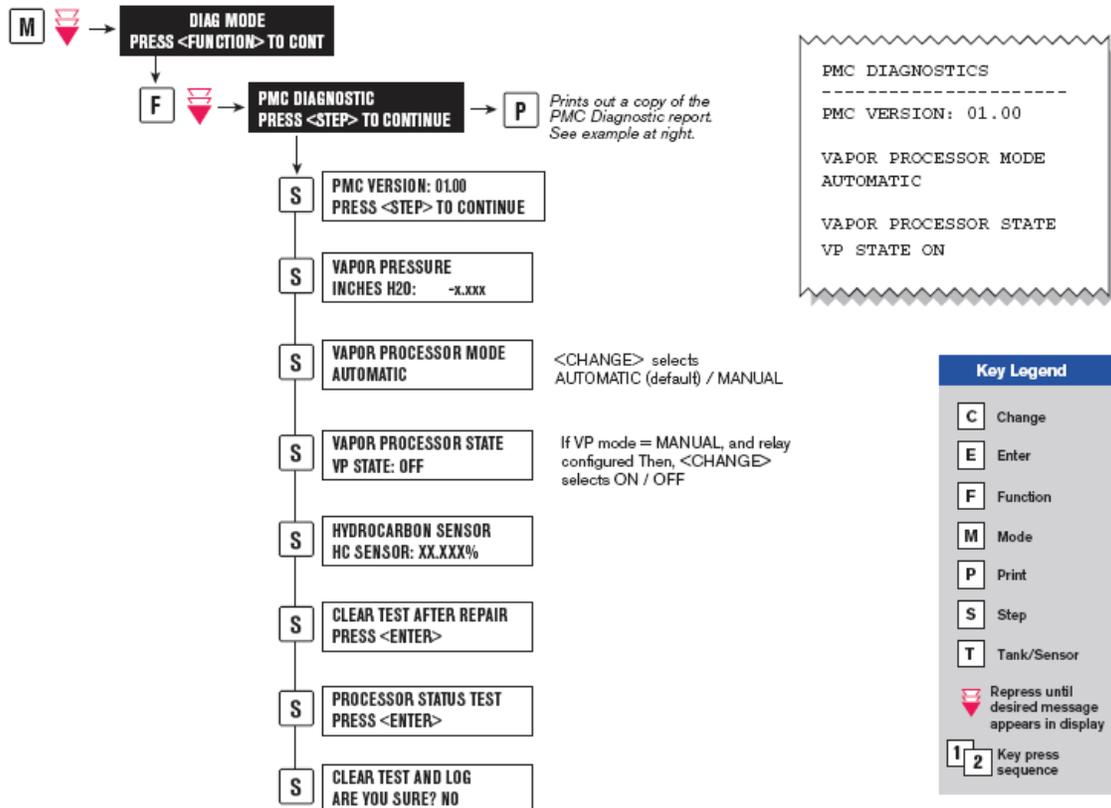

Figure 31: Diagnostic Menu
- With the TLS in the Manual “**OFF**” Mode as shown in **Figure 31: Section 14 / Page 72.**
- Conduct this test with the TLS in the Manual “**OFF**” Mode, as shown in **Figure 31: Section 14 / Page 72.**
- With the TLS in the Manual “**OFF**” Mode, check all electrical connections, as shown in **Figure 31: Section 14 / Page 72**.
- Be sure the *Processor* is in the manual **ON** Mode at the TLS (as shown in **figure 31: Section 14 / Page 72**) and that the cover is off the *Processor*.
- If the motors are rotating in the proper direction, put the TLS in the manual **OFF** mode, as shown in **figure 31: Section 14 / Page 72**